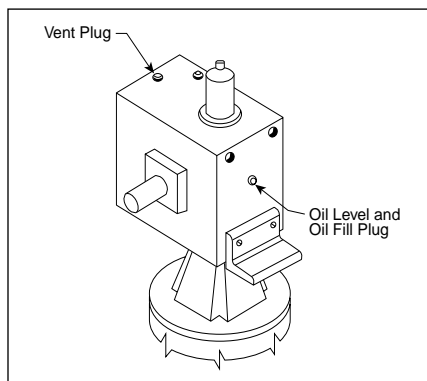

Figure 5
1. Remove oil level plug from gear reducer (see Figure 5). Oil level should be even with bottom of hole.
2. To add oil, remove oil fill/level plug from side of gear reducer and fill to proper level (see Figure 5).